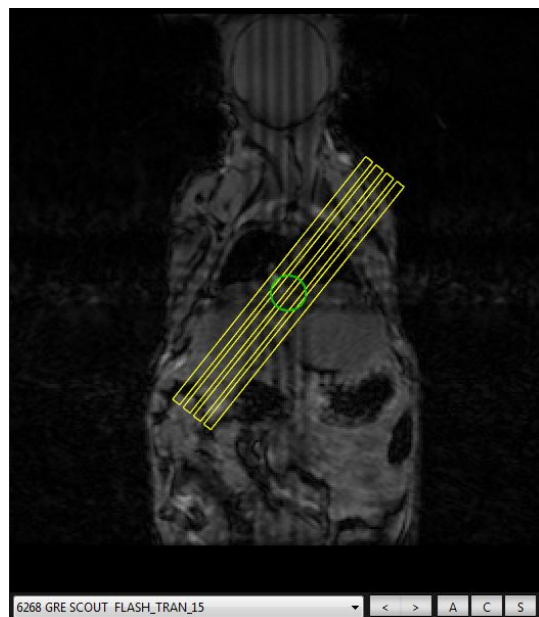

Figure 3: Planning of apparent short-axis slice
- After the initial scouts, plan the first apparent short axis measurement; this is a first guess of the short axis of the heart using the protocol *1. Scout_multislice SA (FLASH)*. (**Figure 3**)